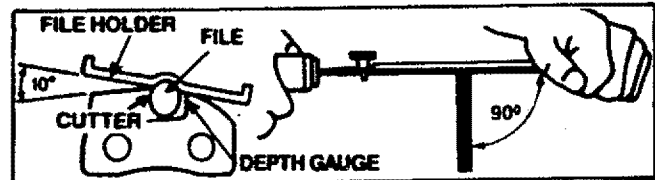

Figure 28
- a.) Position file holder (with 11/64" round file) on cutter top plate and depth gauge. Figure 28.